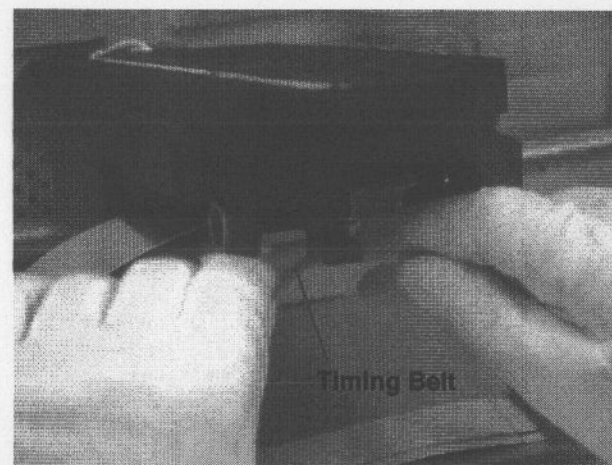

**Figure 4-22. Carriage Guide Shaft Removal**
6. Remove the carriage guide shaft from the driven pulley assembly, and then remove the carriage guide shaft from the carriage unit. (See Figure 4-22.) You may need to turn the carriage guide shaft to the flat side to remove it from the front frame assembly.